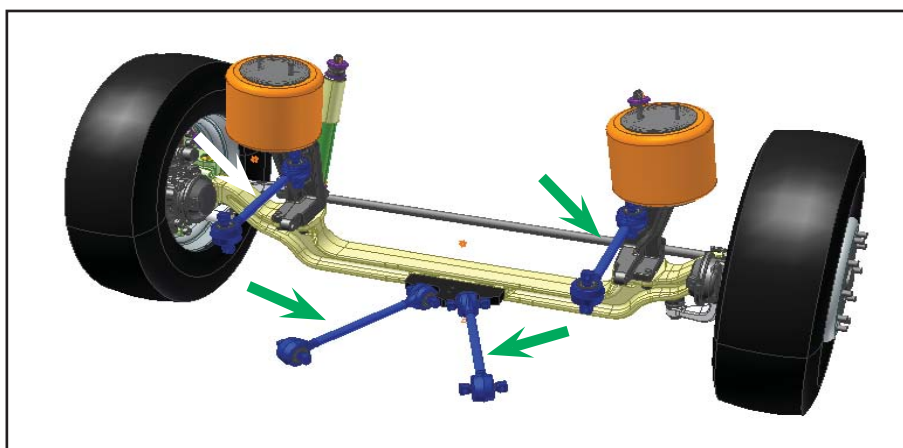

*Figure 1 - Front Axle Radius Rods (4x)*
- 1.2. Locate the four radius rods on the front axle. See Figure 1.